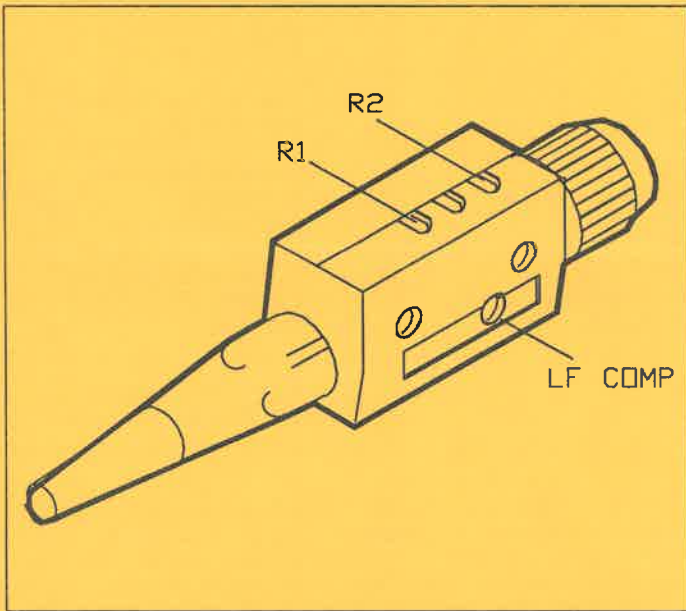
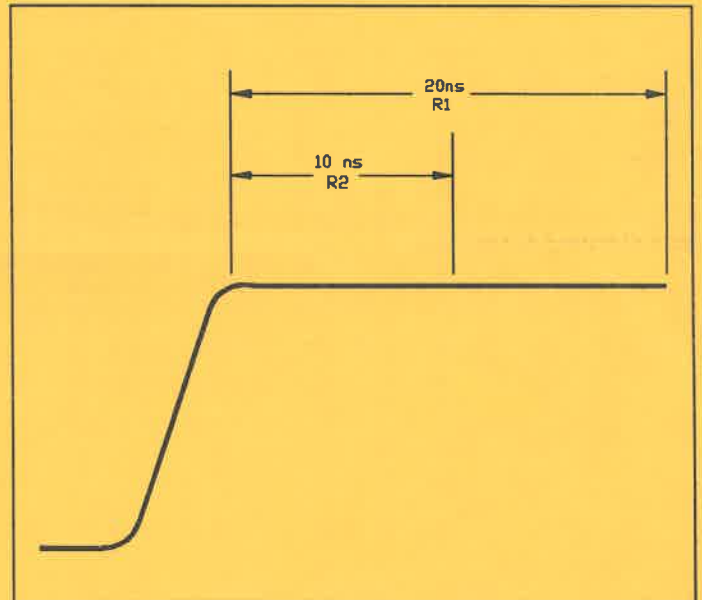

Figure 6. High-Frequency Adjustment Locations.
Figure 7. High-Frequency Adjustments Relative To Affected Areas Of The Waveform.
b. ADJUST—Low-Frequency compensation (LF COMP) using a low-reactance non-conductive adjustment tool for the squarest waveform front corner. See Figure 6. Disconnect the test setup.
c. To remove the plastic cover from the probe compensation box, first disconnect the probe from the signal source and the oscilloscope. Unscrew the compensation box retainer nut about two complete turns and lift the cover out and up, then re-tighten the retainer. Reconnect the probe (as in part 2b). See Figure 6 for the location of all adjustments, and Figure 7 for identification of the waveform area affected by each adjustment. ADJUST R1 for best overall flat response. ADJUST R2 for best corner response. The high-frequency adjustments affect the probe bandwidth. A small overshoot on the leading edge of the pulse may be necessary to meet the bandwidth specification. Reinstall the compensation box cover by reversing the procedure described above.